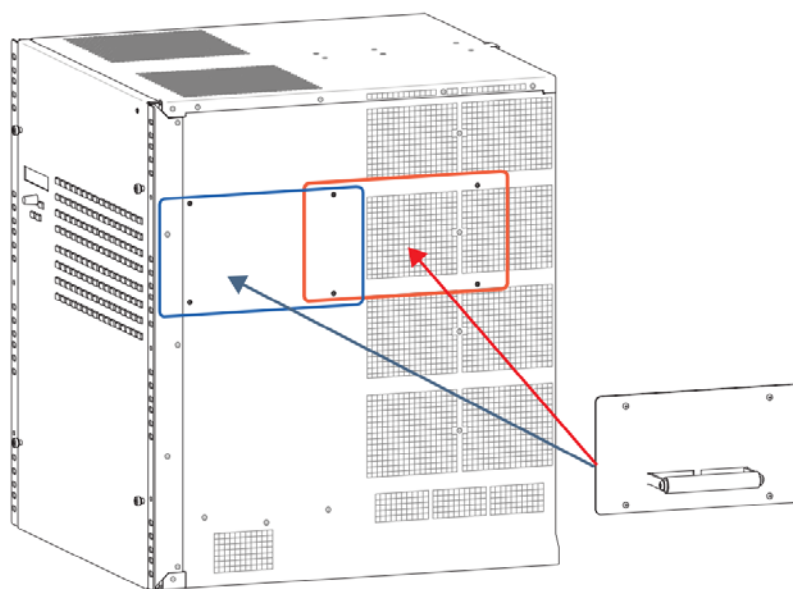

FIG. 15 DGX-6400 Lifting Handle Position Options
6. Attach the two provided Lifting Handles, using either the front or rear position as indicated in FIG. 15. Be sure to tighten down all four screws on both handles.